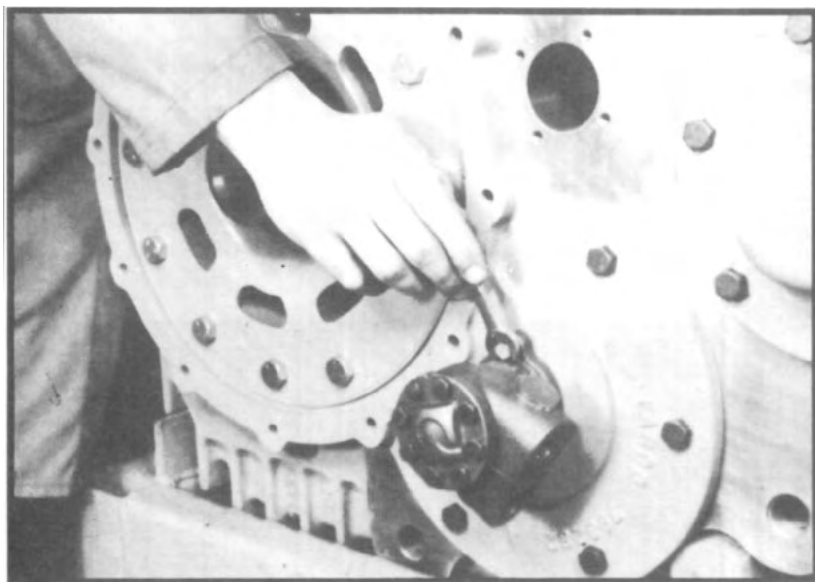

Fig. 87
10. Install oil pump (with ports facing down and towards the top of the case, See fig. 87) and gasket to rear cover plate using three capscrews. Tighten capscrews to correct torque. Check location of pump by turning shaft to ensure pump is freely turning. If pump has been disassembled, consult Section VII-I.